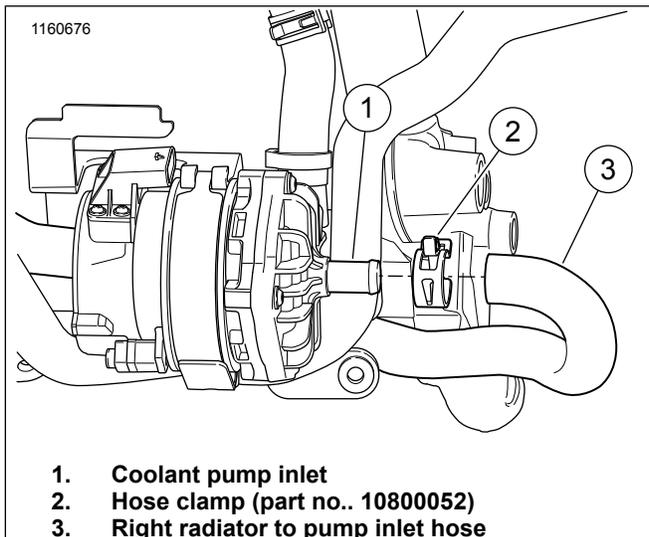

Figure 14. Coolant Pump Inlet Hose
2. See Figure 14. Install the right radiator to pump inlet hose.
- a. Position the hose clamp (2) on the coolant pump inlet.
- b. See Figure 14. Using the clamp tool, locate the clamp (2) on the right radiator to pump inlet hose. Position clamp about 6.4 mm (0.25 in) from the end to hose.